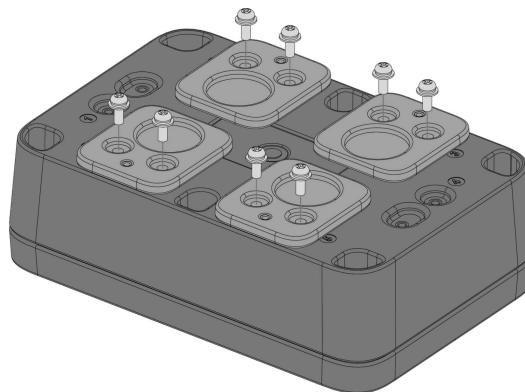

Figure 31: Fixing the magnet mount on the enclosure
2. Fix the magnet mount marked with the letter **G** on the WisBlock Unify Enclosure using one (1) to eight (8) pieces of M3*8 mm Head screw with washer. Place it on fixed positions number **1 to 6** of the enclosure as shown in **Figure 31**.